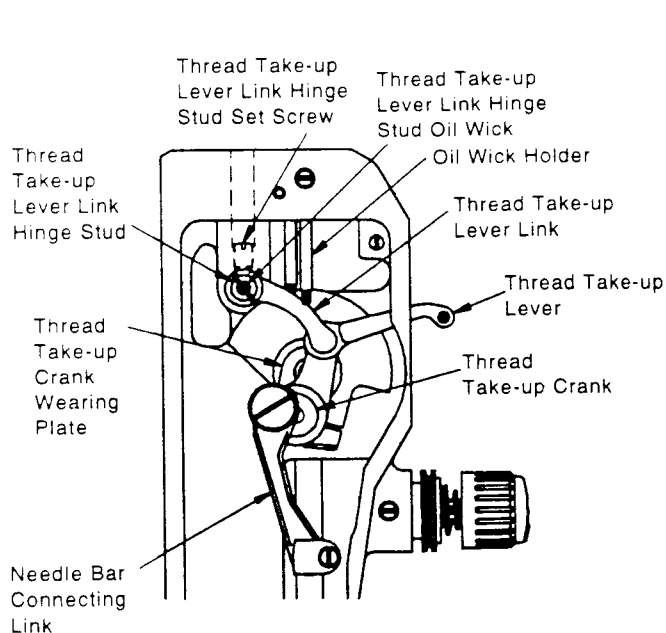

Fig.23
1. Make sure thread take-up crank wearing plate is in place and undamaged on the face of the needle bar crank, as shown in Fig. 23.